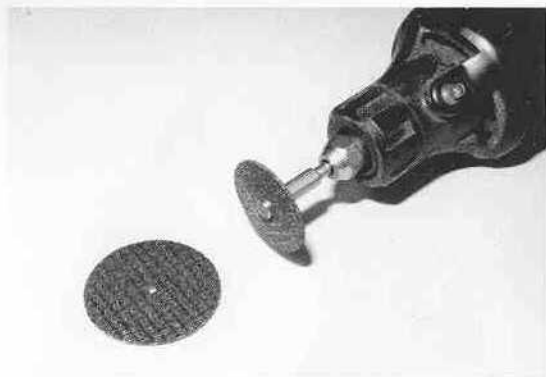

Fig. 243
Figs. 243 to 249 show the modifications needed to your crankshaft & carburetor so the engine fits correctly. Special versions of the GT kit include an engine (indicated on end cap label). These kits already have modified crankshafts, so no cutting is required. For these kits start with fig. 250.
□ Figs. 243 & 244 We will now need to get out the Dremel tool, the fiber reinforced cutoff wheel and especially your safety glasses. **Warning: We recommend using only the fiber reinforced wheels, not the cutoff stones, for your own safety. The cutoff stones can shatter and cause injury. Fig. 243 shows the correct fiber reinforced cutoff wheel next to our Dremel tool.**